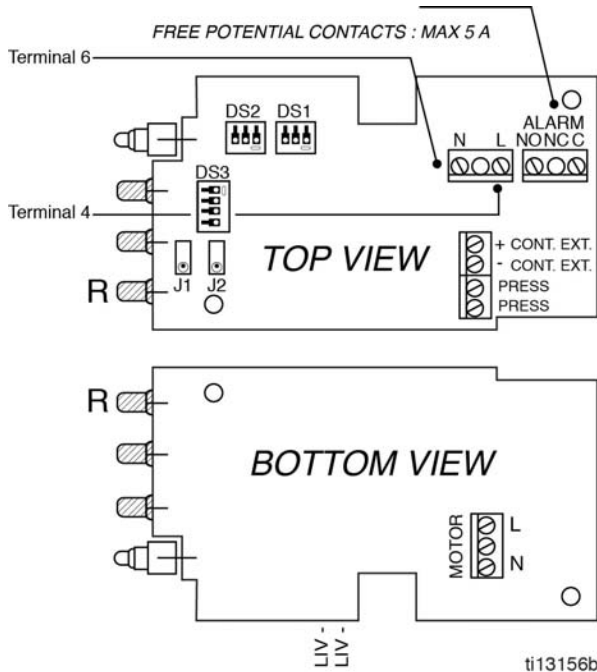
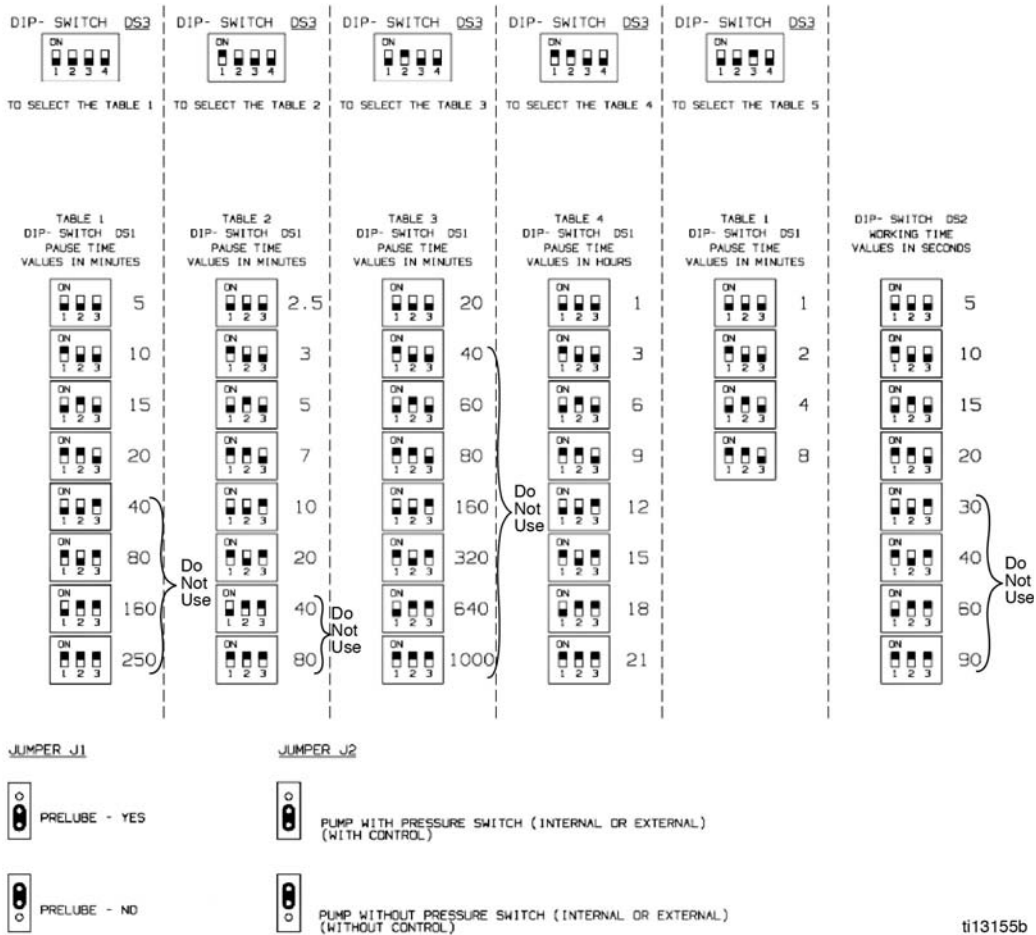

FIG. 2
FIG. 3
5. Connect input power leads to the input terminal block (Terminals 4 and 6) (FIG. 2).
Pause (off) Time (FIG. 2 and FIG. 3)
Work (on) Time (FIG. 2 and FIG. 3)
Prelube (FIG. 2 and FIG. 3)
Pressure Switch (FIG. 2 and FIG. 3)
Pause (off) Time (FIG. 3)
Monitor Time (FIG. 3)
Cycle Switch (FIG. 3)
Pressure Switch (FIG. 3)